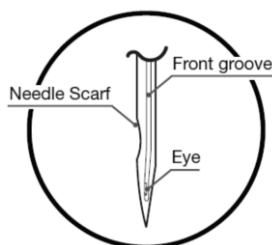

Figure 98
6. Ensure the big groove and the needle scarf faces completely forward. See Figure 98.